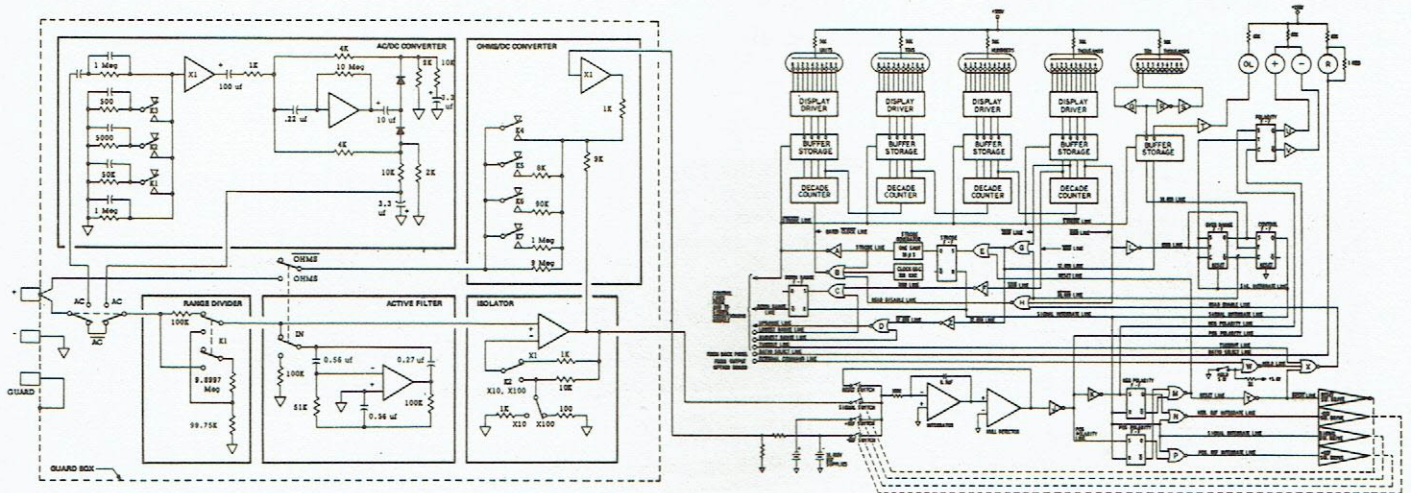

Figure 1.2 - 4500 DMM Simplified Schematic
1.9 A block diagram of the DMM is shown in figure 1.2. For DC measurements, the input is applied to a voltage divider at the input that divides the input voltage by 1 or by 100 depending on the range selected. The scaled input is filtered and applied to the Isolator amplifier which delivers 10 volts full scale (12 volts, with overrange) to the Digitizing and Display module. The gain of the amplifier is either 1, 10, or 100 depending on the range.